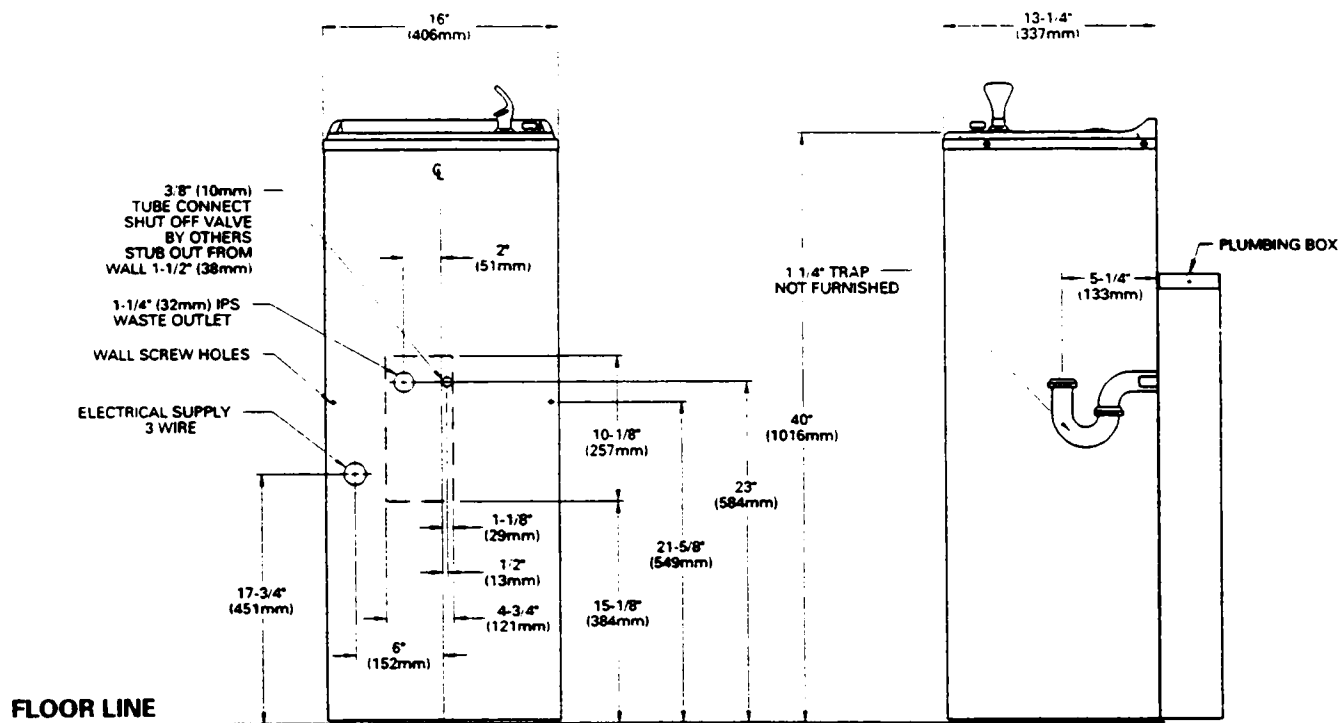

FIG. 1
1. Mount the trap as shown in Figure 1. (trap not furnished) Install trap inside of the cooler cabinet and exit plumbing thru the opening provided on the rear of the cabinet into the plumbing box.